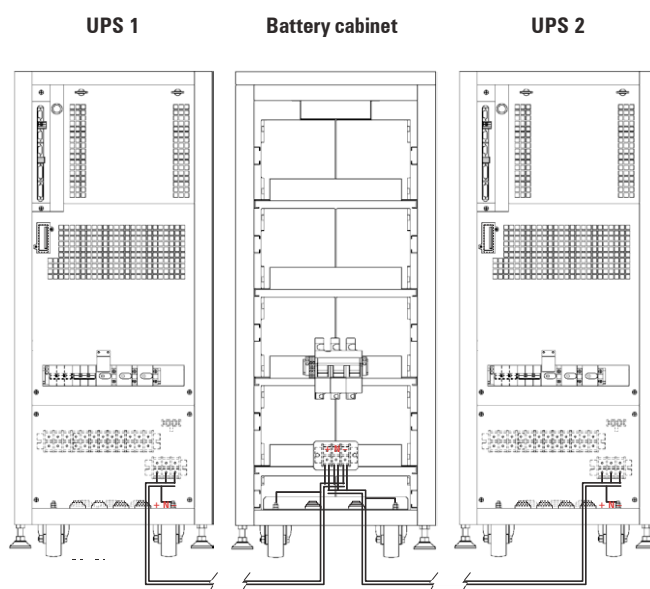

Fig. 34. Example of connection of two UPSs in parallel and a common battery set.
The connection of each UPS with the battery cabinet will be done with the supplied cable bundle, by connecting one side to terminals (X11), (X23) and (X12) of UPS and the other one to terminals (X47), (X49) and (X48) of battery module, always respecting the stated polarity on the labelling of each element and this manual, as well as the colour of the cables (red for positive, black for negative, blue for middle tap (N) and green-yellow for earth bonding), see Fig. 34.